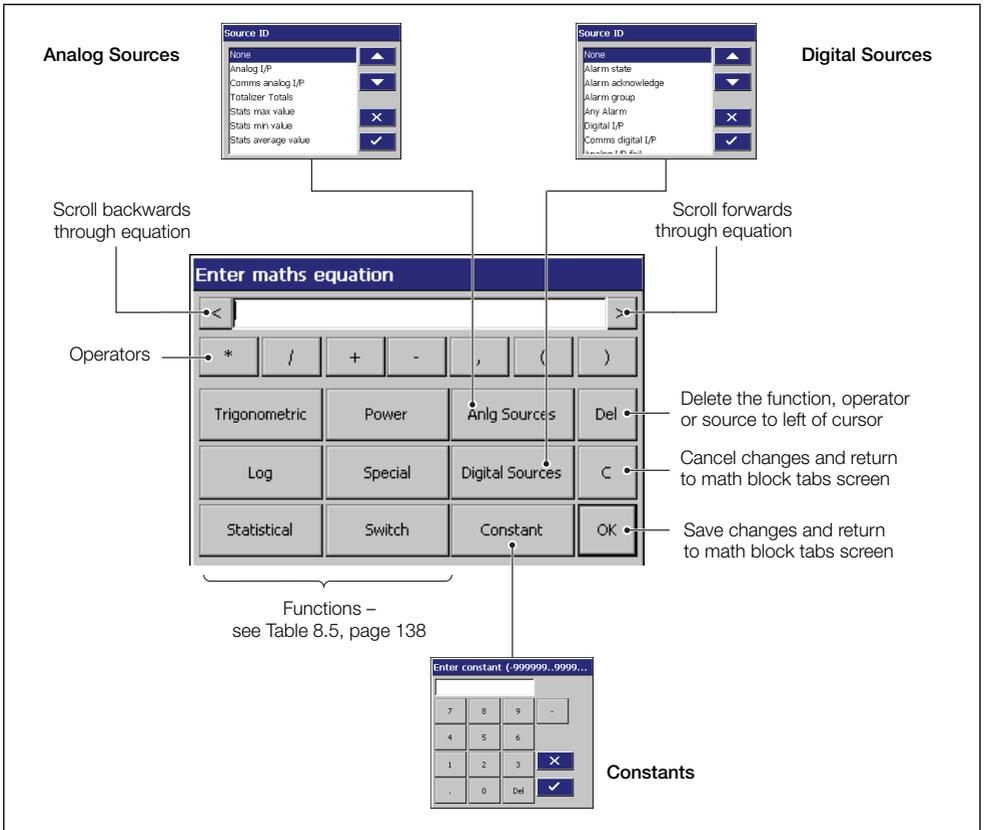

Fig. 8.21 Math pad
- Up to 24 math equations can be configured individually using the math pad – see see Fig. 8.21, page 139.
Equation	<p>If Block Type is set to Equation Editor, create an equation using the math pad – see Fig. 8.21, page 139.</p> <p>If Block Type is set to Predetermined Equation, select a predetermined energy calculation equation – refer to Appendix G, page 188.</p>